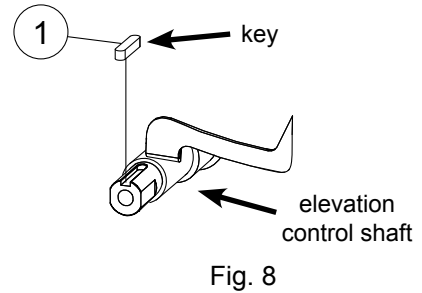
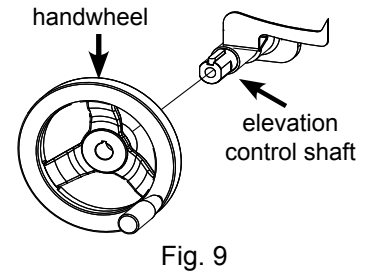
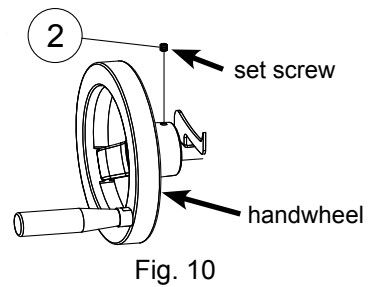
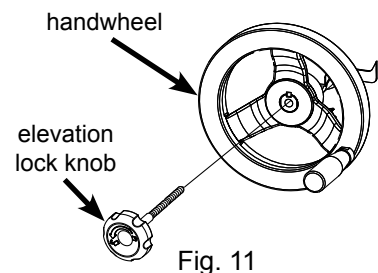

Fig. 8
Fig. 9
Fig. 10
Fig. 11
2. Open one of the handwheel packages included with your saw and screw the handle into the handwheel (see Fig. 7). Tighten the handle with a 14 mm wrench. The hardware required to install the elevation handwheel is located in the area with the blue background on the Table Saw Hardware Pack. Remove a key from the Table Saw Hardware Pack and insert it into the slot at the end of the elevation control shaft (see Fig. 8). Slide the handwheel onto the end of the elevation control shaft (see Fig. 9) until the face of the handwheel is flush with the end of the shaft. Remove a set screw from the Table Saw Hardware Pack and insert it into the small hole located on the side of the handwheel (see Fig. 10). Use a 3 mm hex key to fully tighten the set screw. Locate the lock knob with the longer shaft. Screw the lock knob into the end of the elevation control shaft (see Fig. 11), but don't tighten it completely. The lock knob is used to prevent the handwheel from turning after the blade has been set to a new elevation.